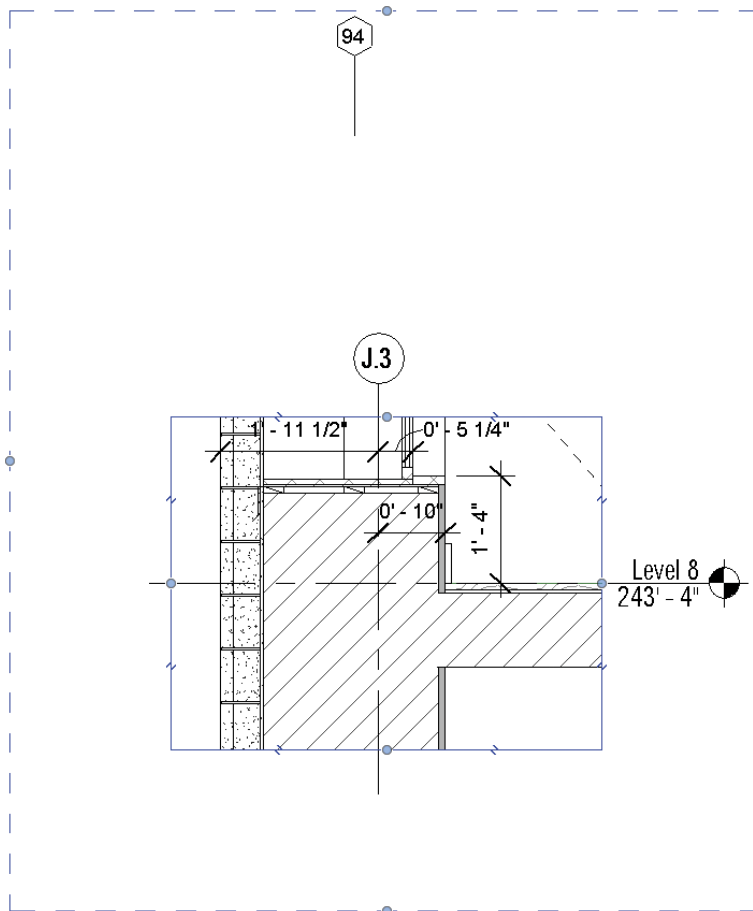

FIGURE 11.29 Extending the annotation crop window
3. Drag the upper limit of the annotation box higher, and you will eventually see the Window tag you placed on the window (Figure 11.29).